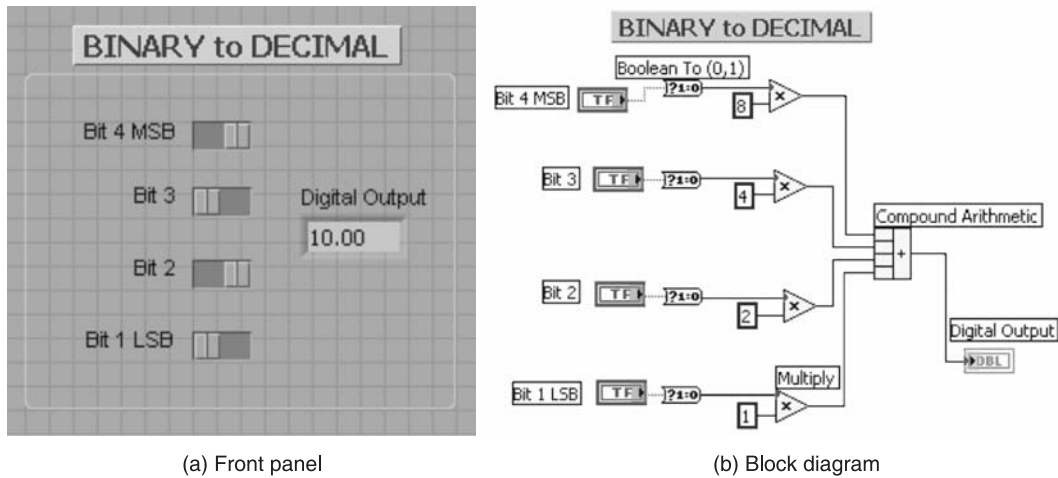

Figure P2.12
**Solution** The front panel and block diagram are shown in Figures P2.12(a) and P2.12(b) to convert a binary to a digital number.